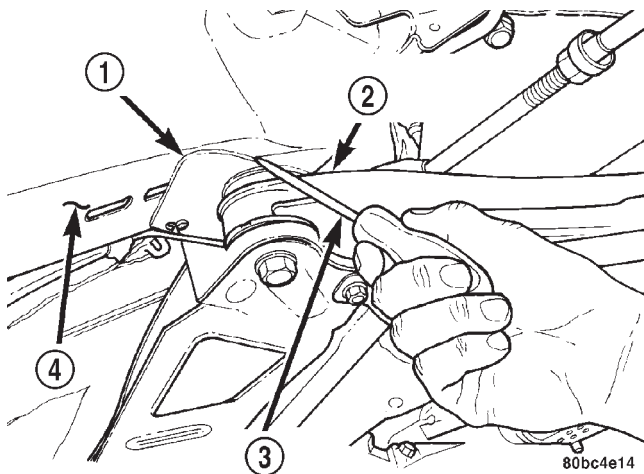

Fig. 25 Marking Crossmember Location
(6) Using an awl, scribe a line (Fig. 25) marking the location of where the front suspension crossmember is mounted against the body of the vehicle.
(5) Using a soft face hammer, tap the front suspension crossmember back-and-forth or side-to-side until it is aligned with the previously scribed positioning marks on the body of the vehicle (Fig. 25). Once the front suspension crossmember is correctly positioned, tighten the rear two crossmember mounting bolts to a torque of 203 N-m (150 ft. lbs.), then tighten the front two crossmember mounting bolts to a torque of 142 N-m (105 ft. lbs.).